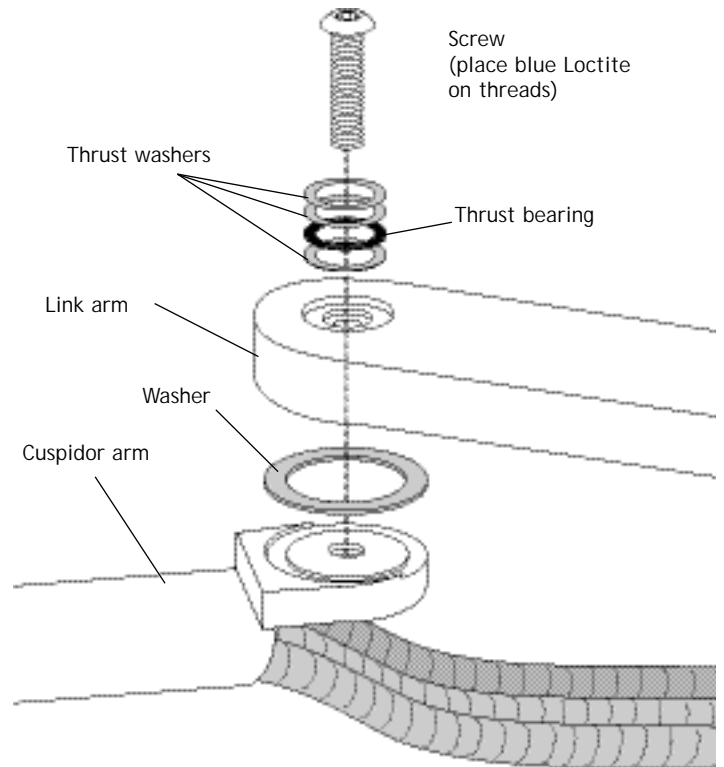

Figure 10
3. Install the Radius cuspidor arm as shown in Figure 10. Prop the packaging insert under the cuspidor to help support it while installing.